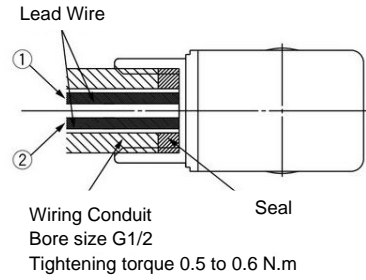

Figure 4. Conduit wiring
- Internal connections are as shown in Figure 4. Make connections to the power supply accordingly.